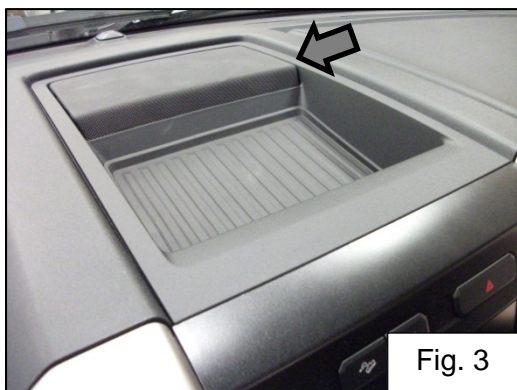

Fig. 3
7. Remove the center speaker grill by prying up and remove the two screws. **Note: Some vehicles may be equipped with only a tray. If so, remove the rubber liner and remove the two screws that were beneath it.** Fig. 3